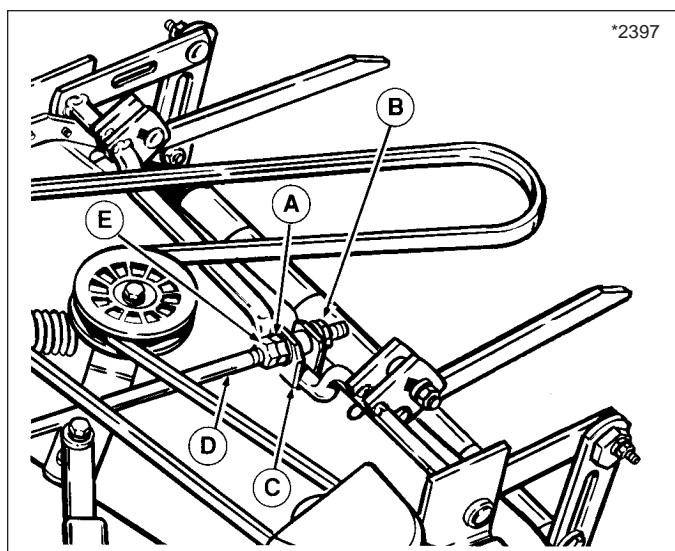

Figure 29. Front-To-Back Levelling
3. See Figure 29. Loosen jam nut (E). To lower rear of mower deck, loosen nut (B) which will lengthen leveling rod (D). To raise rear of deck, shorten leveling rod (D). When proper measurement is obtained, tighten nut (A) against bracket, then tighten jam nut (E) against nut (A).